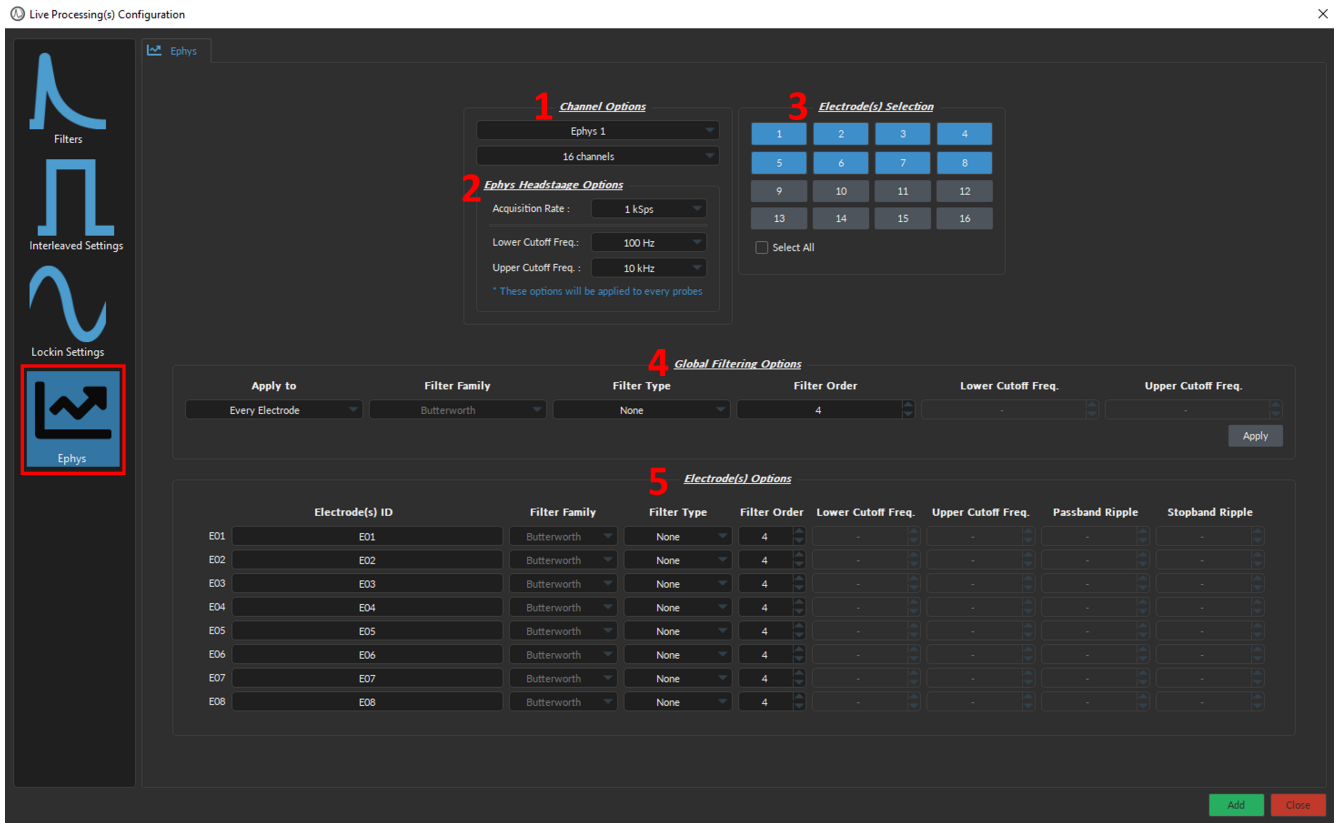
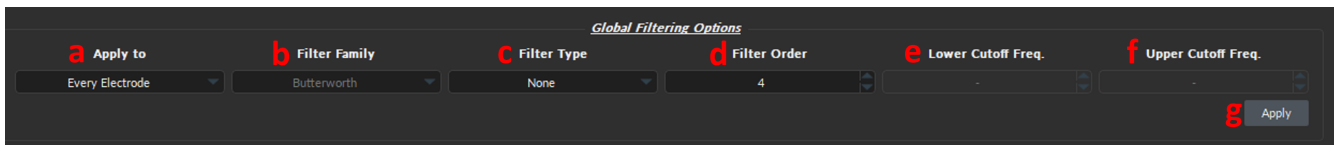
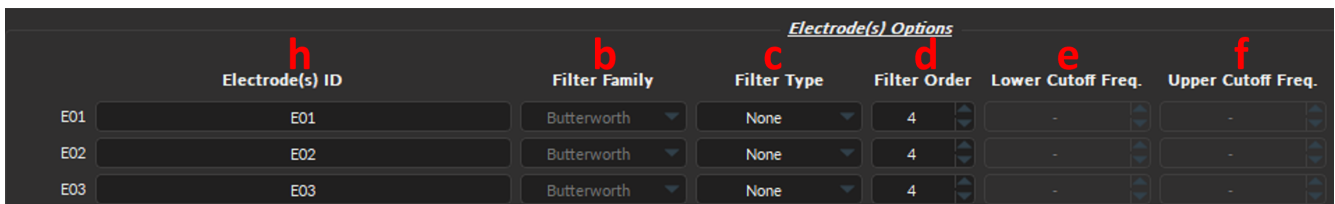

Figure 16.86: Live Processing, Ephys
Figure 16.87: Global Filtering Options
Figure 16.88: Electrode Options
The **Ephys** presets allows users to set individual filter parameters for each electrode within a multi-electrode array. The **Live Processing Ephys** configuration is split into five sections (Fig.16.86):
1. The **Channel Options** (Fig. 16.86, 1) includes the following parameters:
2. The **Ephys Headstage Options** (Fig. 16.86, 2) includes the following parameters:
3. The **Electrode(s) Selection** (Fig. 16.86, 3) selects which of the total **Channel Number** are enabled (in blue). Allows users to disable (greyed out) broken electrode sites or electrodes that are not in the region of interest. No data will be collected from the disabled electrode(s). Use the **Select All** checkbox to enable all electrodes simultaneously.
4. The **Global Filtering Options** (Fig. 16.86, 4) include the following:
- a) The **Apply to** drop-down (Fig. 16.87, a) by default applies all the parameters in the **Global Filtering Options** to *Every Electrode* in the **Electrode(s) Options**. No other application options are currently available.
- b) The **Filter Family** (Fig. 16.87, b) is the *Butterworth* filter which is a common signal processing filter that is designed to have a frequency response that is as flat as possible in the passband (i.e. had no ripples).
- c) The **Filter Type** drop-down (Fig. 16.87, c) sets one of four available options, including:
- d) The **Filter Order** (Fig. 16.87, d) defines the ability of the filter to attenuate or suppress specific frequency ranges. Further, the filter order determines the sharpness of the transition band between the passband and stopbands. The **Filter Order** can be any value between 1-10.
- e) The **Lower Cutoff Freq.** drop-down (Fig. 16.87, e) defines the bandpass values, such that frequencies below the cutoff will be filtered from the data. This can be used to remove multi-unit activity, if unwanted.
- f) The **Upper Cutoff Freq.** drop-down (Fig. 16.87, f) defines the bandpass values, such that frequencies above the cutoff will be filtered from the data. Useful to remove high-frequency noise.
- g) The **Apply** button (Fig. 16.87, g) updates the parameters of every electrode in the **Electrode(s) Options** to match the ones specified in the **Global Filtering Options**.
5. The **Electrode(s) Options** (Fig. 16.86, 5) individually sets the filtering options for each electrode within the array. The number of rows corresponds to the number of enabled electrodes in the **Electrode(s) Selection** (in blue). The filtering parameters functionalities (Fig. 16.88, b-f) are the same as the ones defined above in the **Global Filtering Options** (Fig. 16.87, b-f).
- h) The **Electrode(s) ID** text-box (Fig. 16.87, h) assigned a more intuitive/informative label to each enabled electrode.